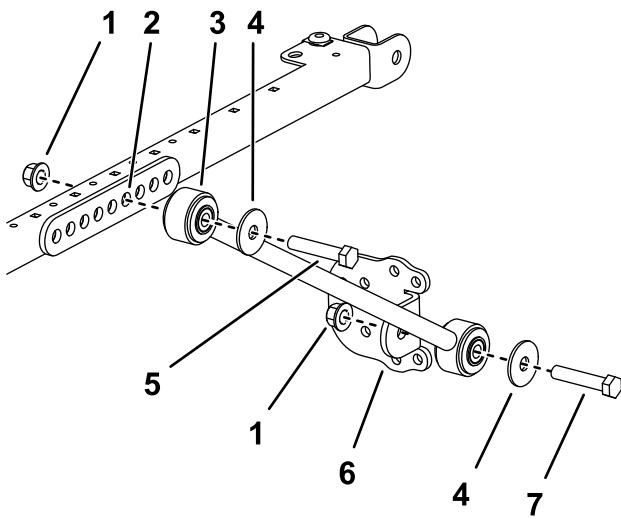

Figure 20
12. On each side of the sunshade frame, loosely mount an extension link to the fourth hole of the brace mount with 2 bolts (1/2 x 2-3/4 inches), and 2 flange nuts (1/2 inch) as shown in Figure 20.
13. Loosely install a brace bracket to each brace with a bolt (1/2 x 2-1/2 inches), washer (1/2 inch), and flange nut (1/2 inch) as shown in Figure 20.